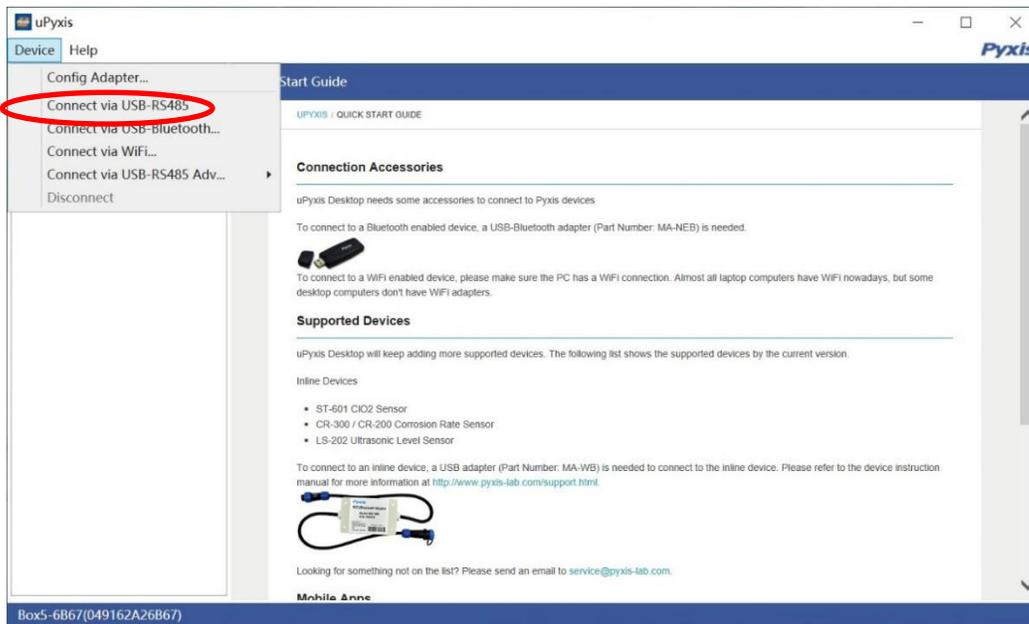

Figure 14. Connection Options
- 6) Select Connect via USB-RS485 (Figure 14).